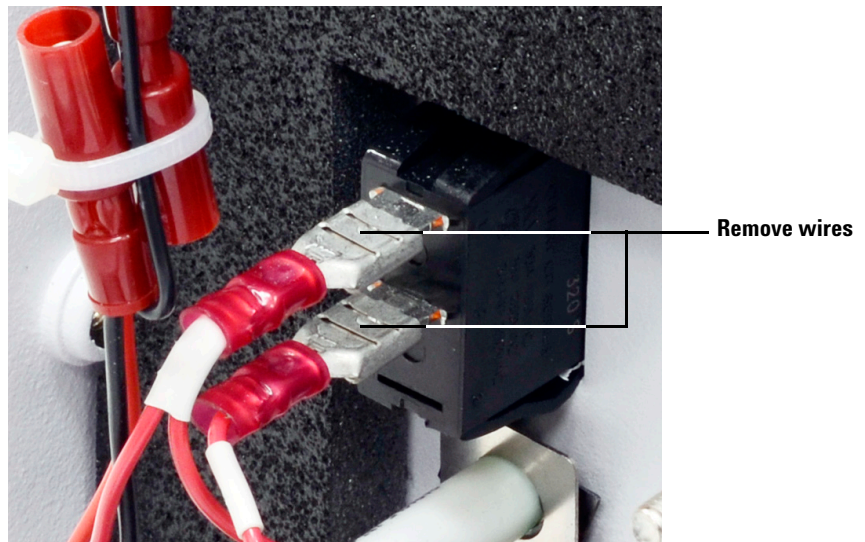

Figure 13 Wires to remove from the on/off switch (G6011A shown.)
- 2 Inside the cabinet remove the two wires **SW-1** and **SW-2** from the on/off switch (see Figure 13).
- 5 With the raised end of the switch at the top, push the new switch in place. (The two wiring connectors will be towards the bottom of the switch, see Figure 13.)